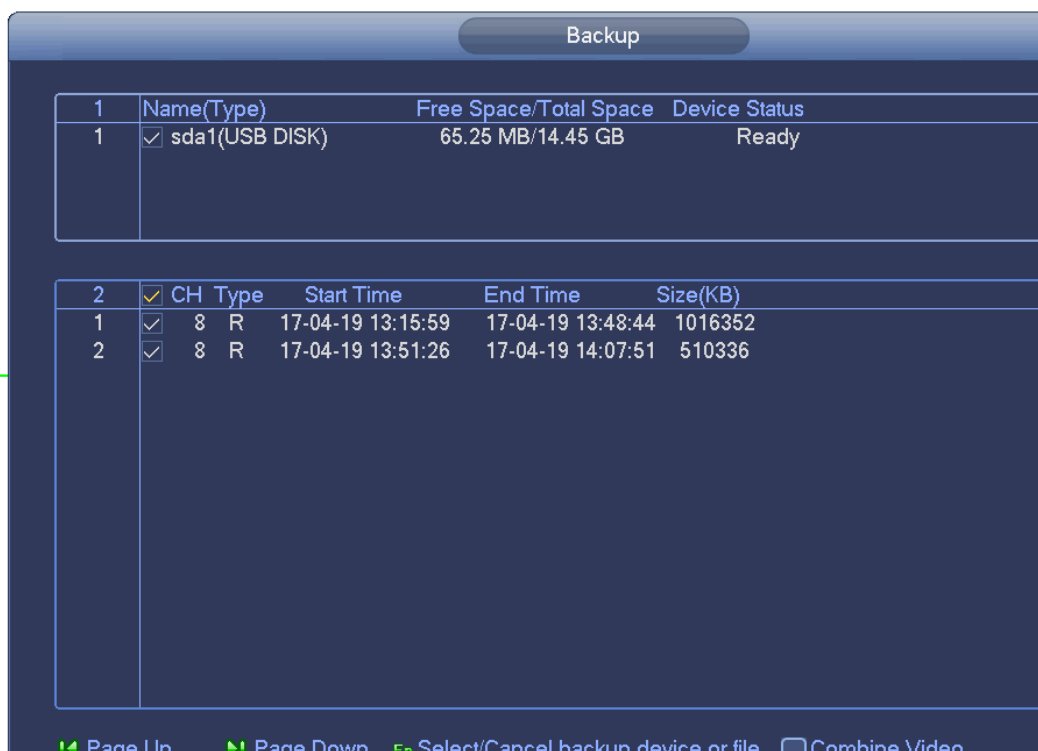
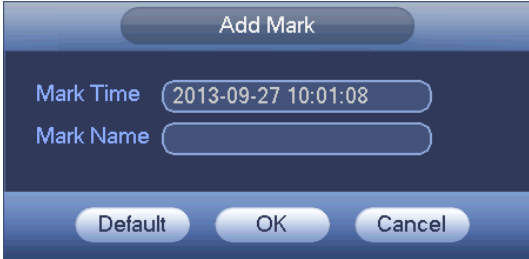

Figure 4-88
Figure 4-89
From Main menu>Search, or on the preview interface right click mouse and then select search item, you can go to the following interface. See Figure 4-88 or Figure 4-89.
**Please make sure your purchased device support this function. You can use this function only if you can see the mark playback icon on the Search interface (Figure 4-88 or Figure 4-89).**
During 1-window playback mode, click mark file list button  in Figure 4-88 or Figure 4-89, you can go to mark file list interface. Double click one mark file, you can begin playback from the mark time.
Click the mark manager button  on the Search interface (Figure 4-88 or Figure 4-89); you can go to Mark Manager interface. See Figure 4-94. System can manage all the record mark information of current channel by default. You can view all mark information of current channel by time.
On the main menu, click Search button, or right click mouse and then select Search. You can go to Figure 4-88 or Figure 4-89